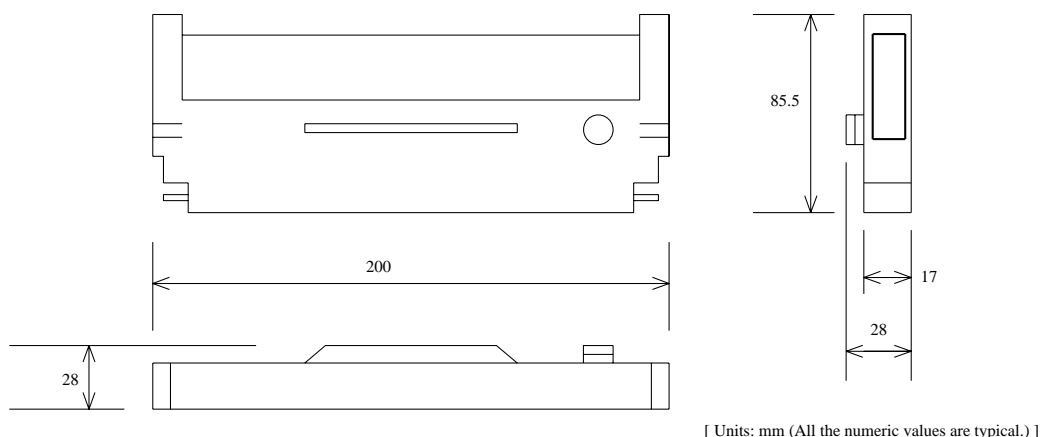

Figure 1.3.1 Ribbon Cassette Overall Dimensions
- 3) Ribbon cassette overall dimensions (refer to Figure 1.3.1)